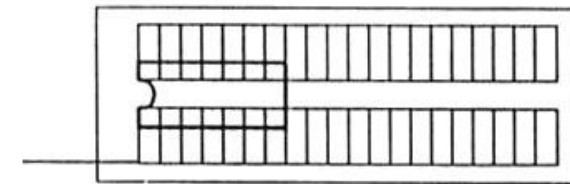

Figure 3
- \* Confirm, and then insert the 74LS00 chips' nick of tested device align with the left of the ZIF socket and lock (as showed in Figure 3).